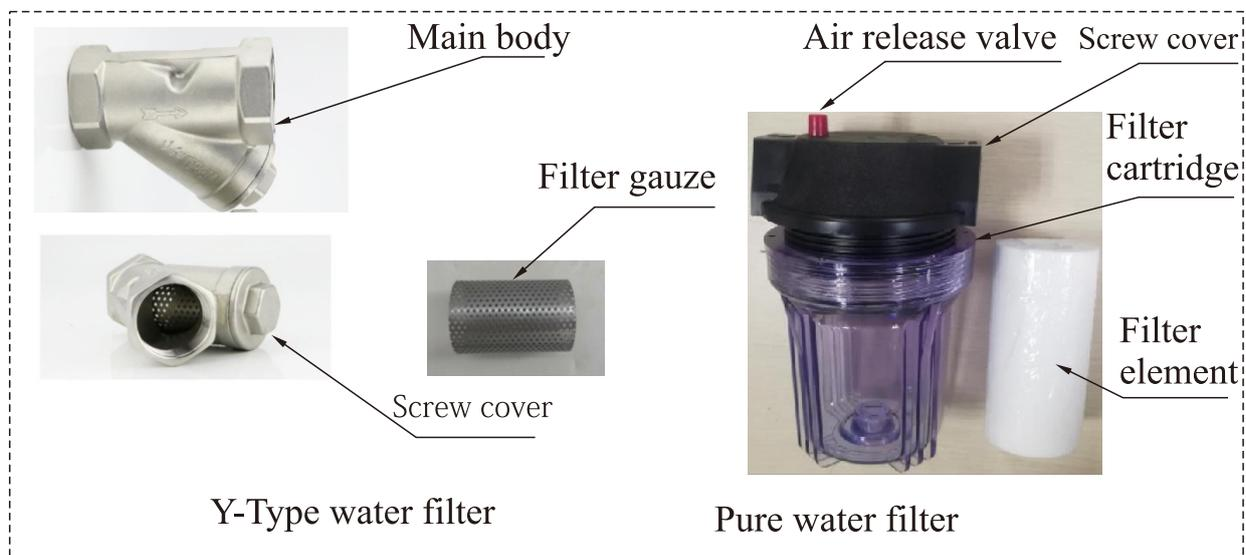

Figure 11 Commonly used 2 kinds of filters
- ◆ Check the water filter, if there is any foreign matter, please clean it or replace the filter element in time (see Figure 11).